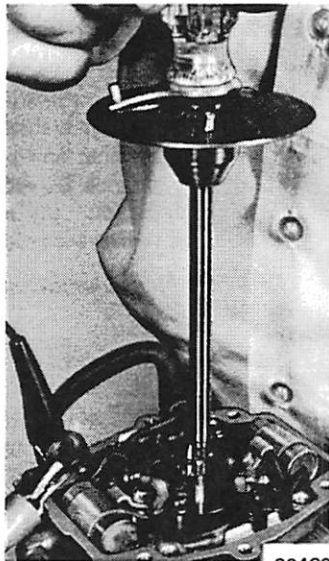

Figure 5.
2. Check spring tension setting with Spring Tension Gauge (C-91-29406). Place end of tool over breaker assembly and turn toward breaker point spring to 33-37 oz. tension. (Figure 5)